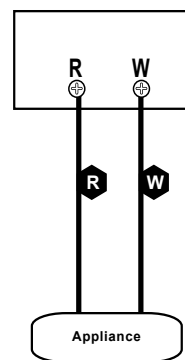

Figure 24.2
5. Connect your thermostat wire to the W and R terminals (**Figure 24.2**).